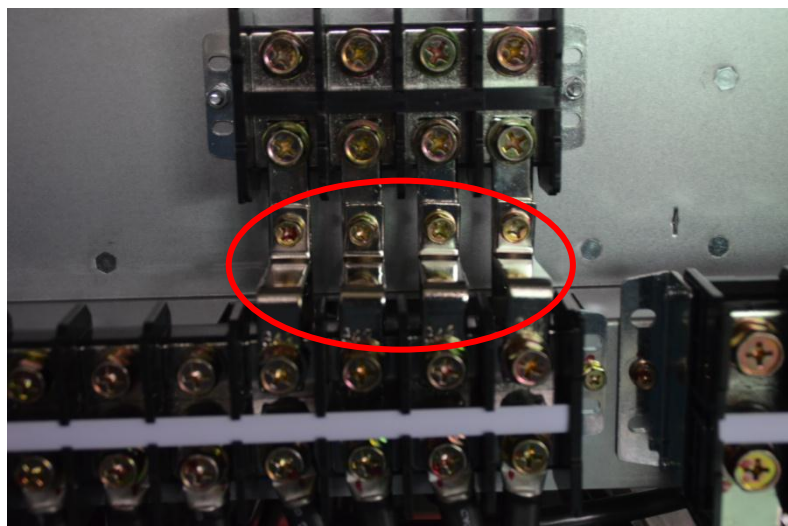

Figure 12 Y42 copper bars
- For the Dual Input, if the system needs to share the same input, the shorted copper bars Y42 should be added to the position as is shown in figure 12 and 13.